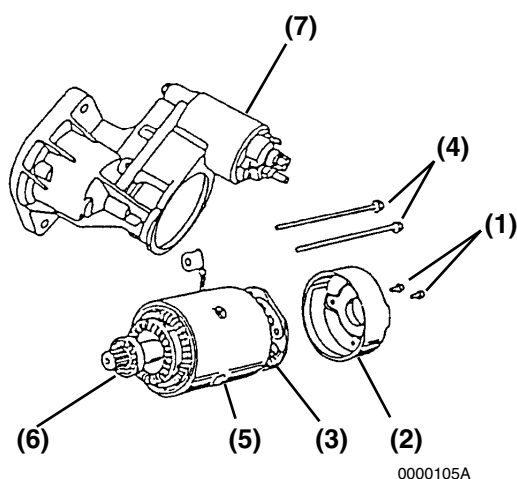

Figure 11-4
2. Remove the two M4 bolts (**Figure 11-4, (1)**) securing the rear cover (**Figure 11-4, (2)**) to the brush holder assembly (**Figure 11-4, (3)**).
3. Remove the two M5 through bolts (**Figure 11-4, (4)**). Separate the rear cover (**Figure 11-4, (2)**), field coil assembly (**Figure 11-4, (5)**) with the armature assembly (**Figure 11-4, (6)**) from the gear housing (**Figure 11-4, (7)**).